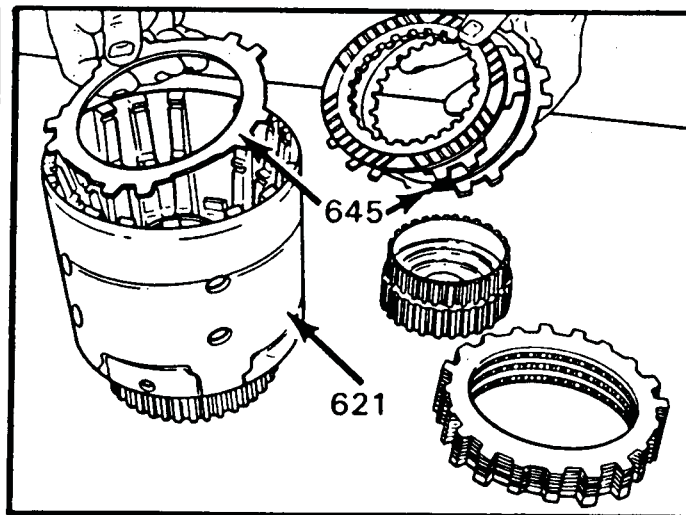

Figure 92
2. Install a overrun clutch steel plate first as shown in Figure 92.
4. Install the rest of the overrun clutch plates (Friction, Steel, Friction), as shown in Figure 92.